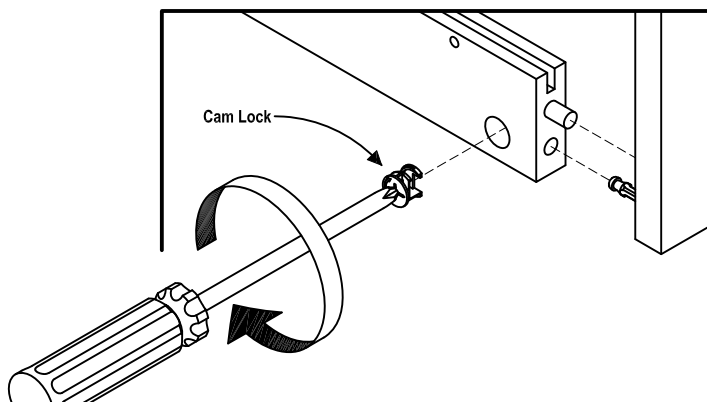

Figure 1
Attach Back Rails (F) to Side Panel (C) with Cam Locks. (see Figure 1).